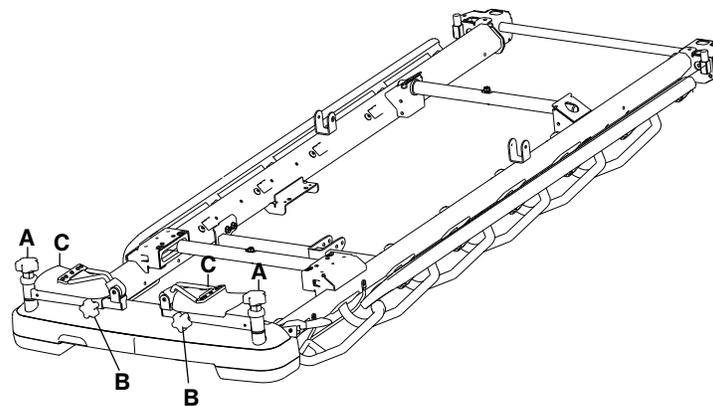

Figure 27 – Stowing the foot supports
3. Loosen the leg knob (B) on the side of the foot supports to adjust the length.
4. Tighten the leg knob (B) to lock the foot supports in the desired position.
5. Flip the foot supports (C) up before you position the patient.
6. Reverse steps to stow the foot supports (Figure 27).